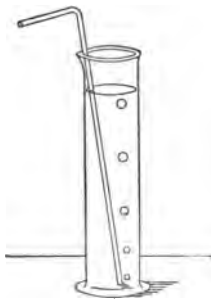

FIG. 39.
M. Because we are surrounded by it. Fishes can't see the water in which they swim. But when air is surrounded with water it becomes visible. I blow air through this tube into a tall glass full of water. Now you can see little quantities of air, as round bubbles, quite well (Fig. 39).